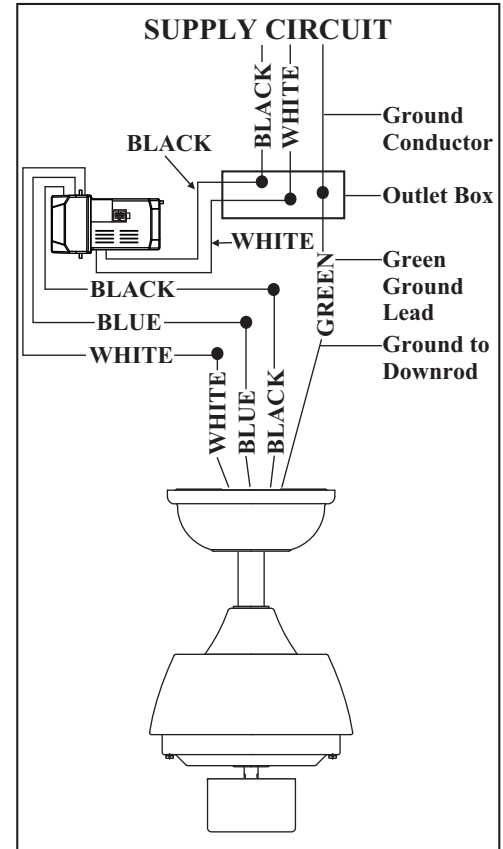

Figure 13
8. (Figure 13) Motor to receiver electrical connections: Connect the black wire from the fan to black wire marked "TO MOTOR L". Connect the white wire from the fan to the white wire marked "TO MOTOR N" from the receiver. Connect the blue wire from the fan to the blue wire marked "For Light" from the receiver. Secure the wire connections with the plastic wire connecting nuts provided.
9. (Figure 13) Receiver to house supply wires electrical connections: Connect the black (hot) wire from the ceiling to the black wire marked "AC in L" from the receiver. Connect the white (neutral) wire from the ceiling to the white wire marked "AC in N" from the receiver. Secure the wire connections with the plastic wire connecting nuts provided.
10. (Figure 13) If your outlet box has a ground wire (green or bare copper) connect it to the fan ground wires; otherwise connect the hanging bracket ground wire to the mounting bracket. Secure the wire connection with a plastic nut provided. After connecting the wires spread them apart so that the green and white wires are on one side of the outlet box and black and blue wires are on the other side. Carefully tuck the wire connections up into the outlet box.